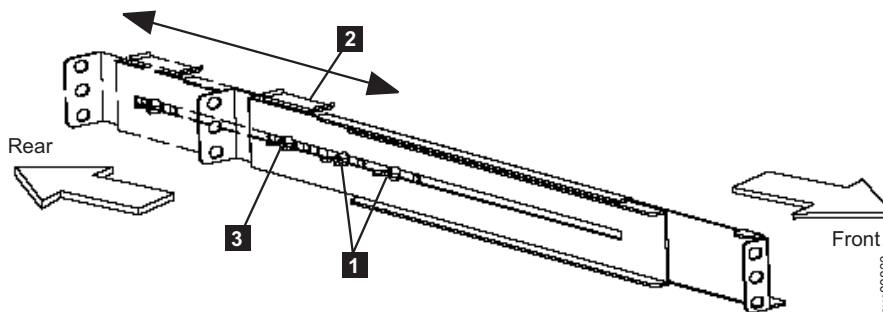

Figure 217. Adjusting the rail depth on the 2145 UPS-1U
4. Loosen the assembly wing nuts (**1** in Figure 217) on both rail assemblies and adjust the rail size to the depth of your rack.
5. Position the rear, hold-down bracket (**2** in Figure 217 on page 490) towards the end of the rail assemblies and tighten the wing nut (**3** in Figure 217 on page 490).